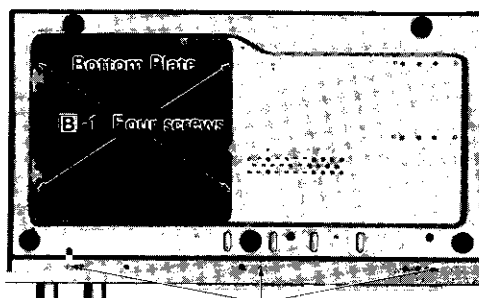

Figure 4-2
3. Remove three screws from the front panel (lower part). See Fig. 4-2.